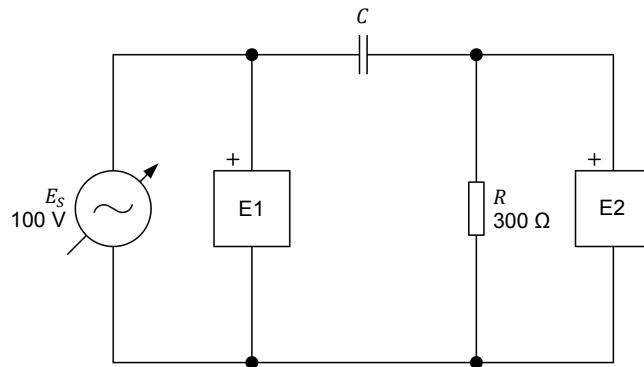

Figure 1-16. AC circuit with a resistor and a capacitor.
- 21.** Modify the circuit so that it is as shown in Figure 1-16 (replace the inductor by a capacitor). This circuit contains a resistor R and a capacitor C . Capacitors are studied in the next unit of this manual.
The value of capacitor C in the circuit of Figure 1-16 is referred to as the capacitance and is expressed in microfarads (μF). The capacitance value to be used depends on the frequency of the ac power source as is indicated in Table 1-3.